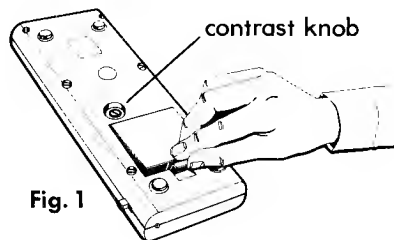

Fig. 1
1. Turn the console over. Using a fingernail, lift up the locking tab on the battery compartment cover and lift it off. See Fig. 1.
2. Locate the contrast knob on the back of the console (refer to Fig. 1). Insert a dime (a fingernail, etc.) into the groove in the knob and turn it until you achieve the desired contrast.